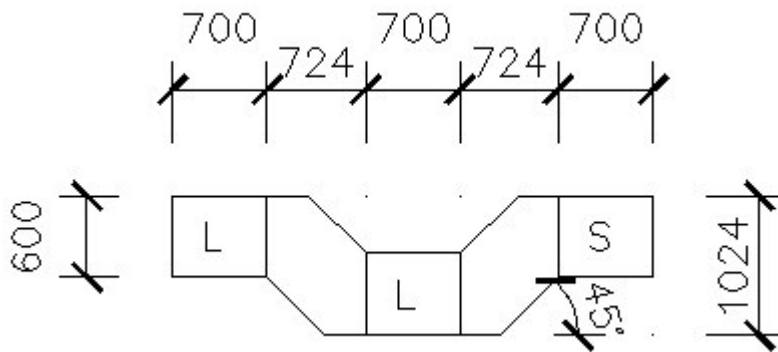

Figure 1
Step 1: Draw the outline of the window you wish to create, **Figure 1** shows the proportions of the example I have used. It is important to draw the outline as a closed polyline and also to draw this in an anticlockwise direction. The lines representing the location of the transoms are to be drawn using the line command (not polyline) and should intersect the outline.